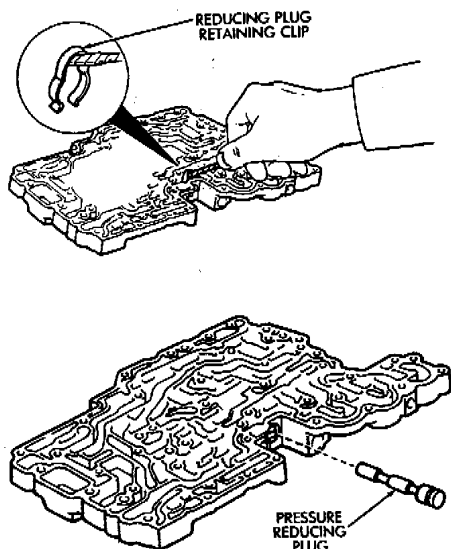

Fig. 9 Removing/Installing Pressure Reducing Plug
(4) Install pressure reducing plug in plug bore. Then secure plug with retaining clip (Fig. 9).